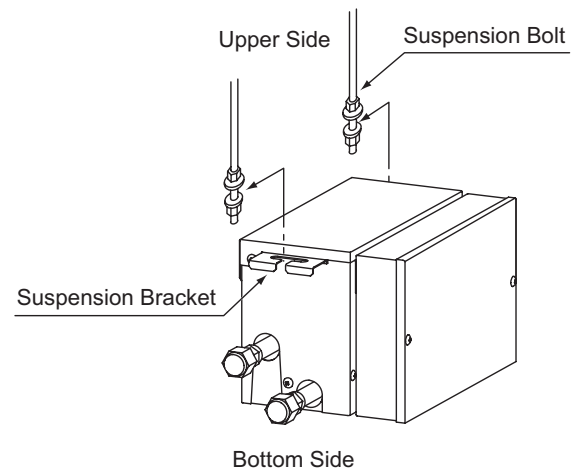

Figure 4.5 Hanging Method
(2) Hanging the Switch-Box
- (b) Insert the suspension bolt into the groove part of the suspension bracket as shown in Figure 4.5. Ensure that the washers are correctly affixed to the suspension bracket.